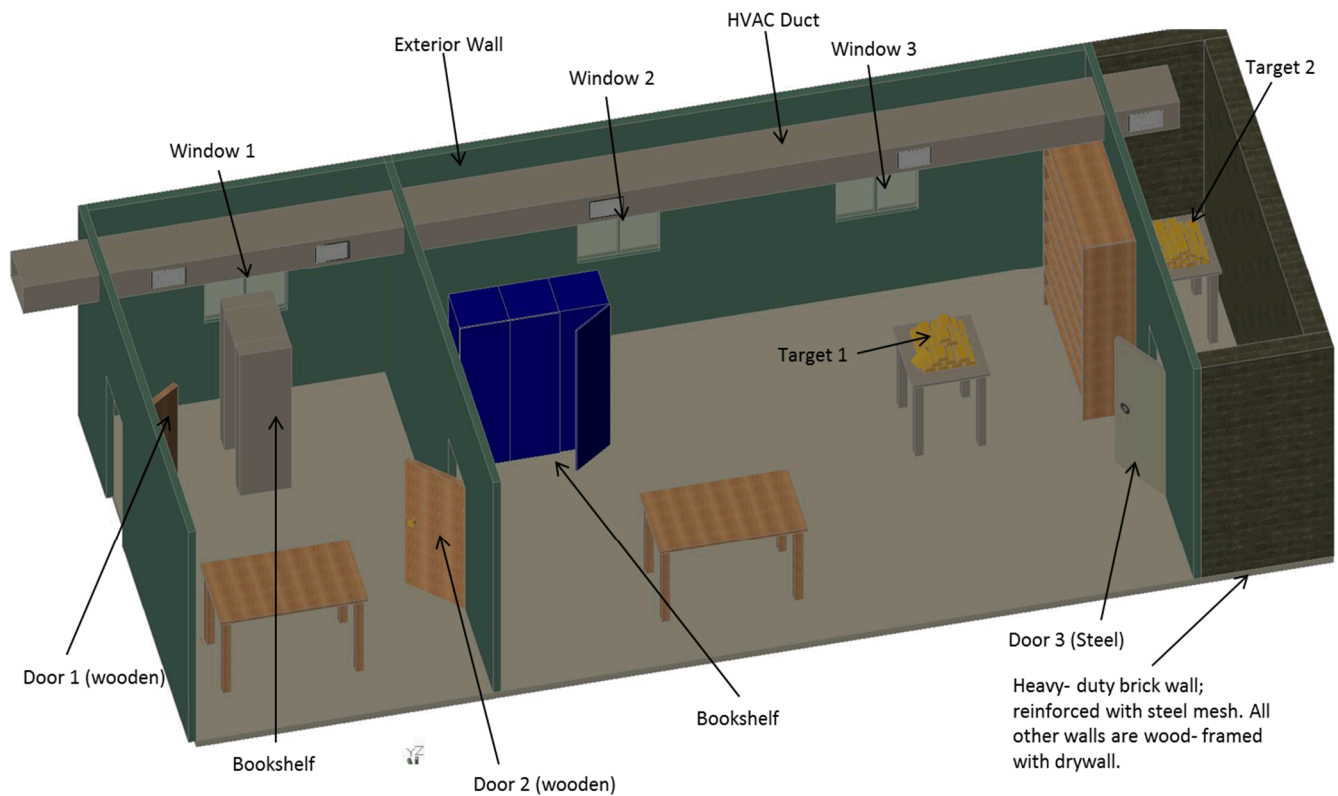
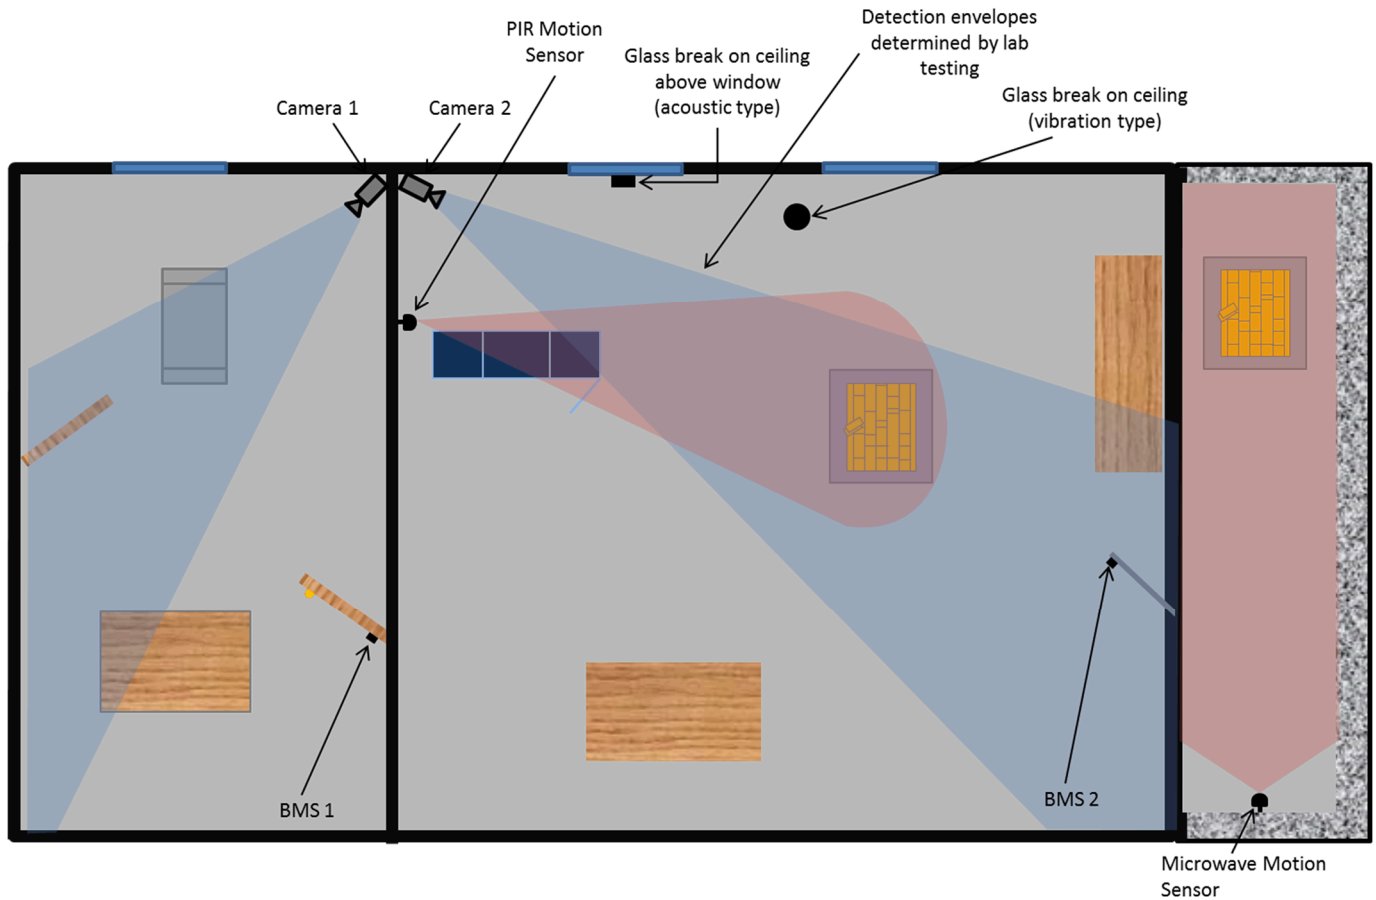
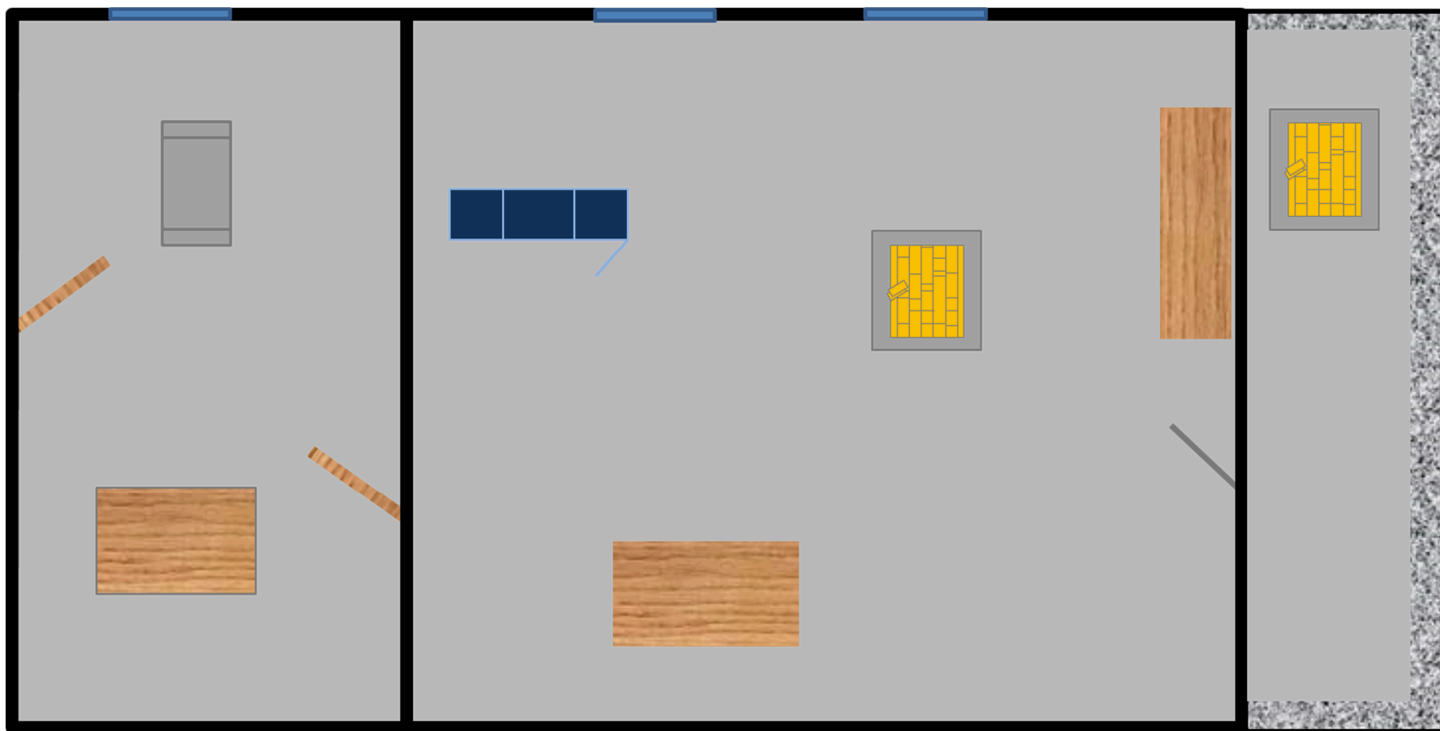

Figure 1: 3D layout of Licensee facility showing construction and target location.
Figure 2: 2D layout of Licensee facility with sensors and video systems installed.
Figure 3: 2D layout of Licensee facility that needs sensor and video systems installed.
1. Examine Figure 1 and 2 above and find 4 **best practices** and 8 incorrect applications of the sensor and video systems installed in Figure 2. **NOTE:** Think about detection and assessment of the alarm.
- Now that you have determined the incorrect applications above in Figure 2 populate Figure 3 with the corrections. Markup Figure 3 with your design. Feel free to add additional sensors if you feel necessary.